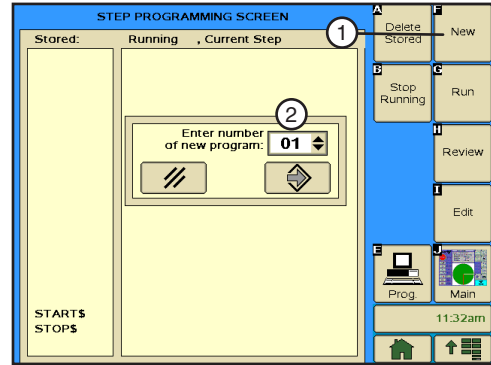

Figure 116-1 1. NEW Button
1. Push **Prog.** and **Step Prog.** to view the Step Program screen. Refer to Figure 116-1.